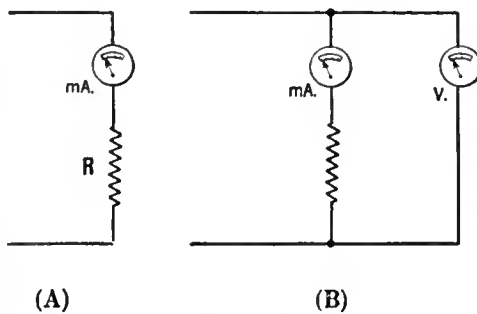

Fig. 1
The theory may seem a little complicated, but the method about to be described is simple and quick. There is a definite, though unknown, amount of resistance between the two points whose difference in potential is desired. Let this resistance be R, let the current through it be I, and the true voltage across it be E. Then by Ohm's Law $R = E/I$ expressed in ohms, volts, and amperes. Of these three unknown quantities, the current is determined most easily, by inserting a milliammeter in series with the load as shown in Fig. 1 (A) and noting its reading. Now connect the low-resistance voltmeter across both the milliammeter and the load, as shown in Fig. 1 (B). This will immediately cause a change in the reading of the milliammeter, as explained above. Let this new current reading be I' and let the reading of the voltmeter be E'. Here again, by Ohm's Law, $R = \frac{E'}{I'}$ (the resistance of the milliammeter is practically zero). Then, if we have $R = \frac{E}{I}$ we know that $\frac{E}{I} = \frac{E'}{I'}$ whence $E = E' \times \frac{I}{I'}$. In other words, the true voltage across the